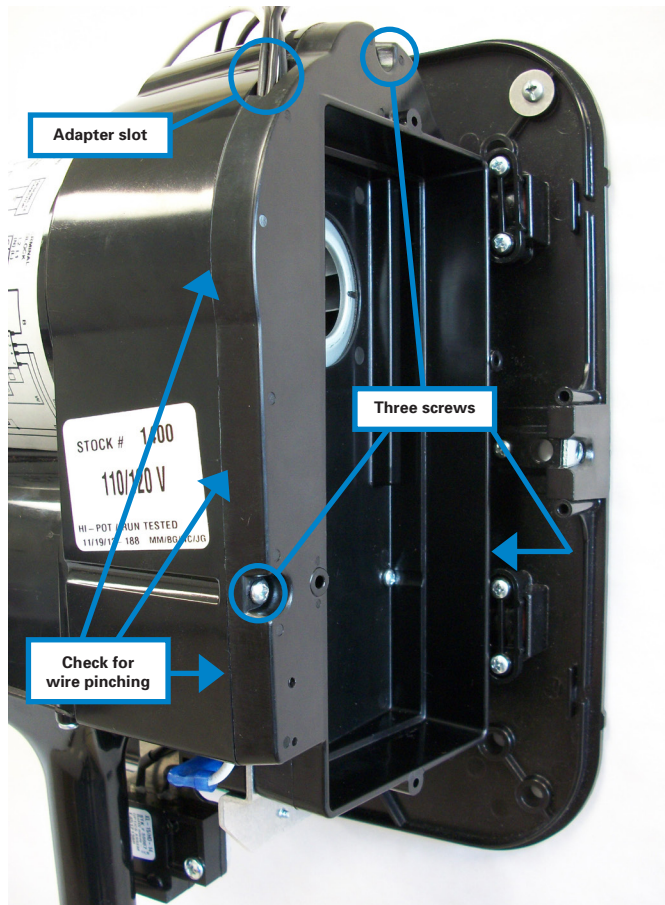

Figure 16
**12.** Attach the Filter Adapter with Control in the spot where the air inlet cover was removed, using the **three (3)** screws previously removed in Step 3. Make sure to route the wires through the Adapter slot so that they are not pinched (especially in the areas indicated in **Figure 16**). It may be necessary to adjust the position of the Adapter (A) until it is flush with the dryer housing. The Adapter will not be positioned flush to the dryer until the screws are tightened. The foam seal on the back of the Filter Adapter will compress against the casing of the motor.